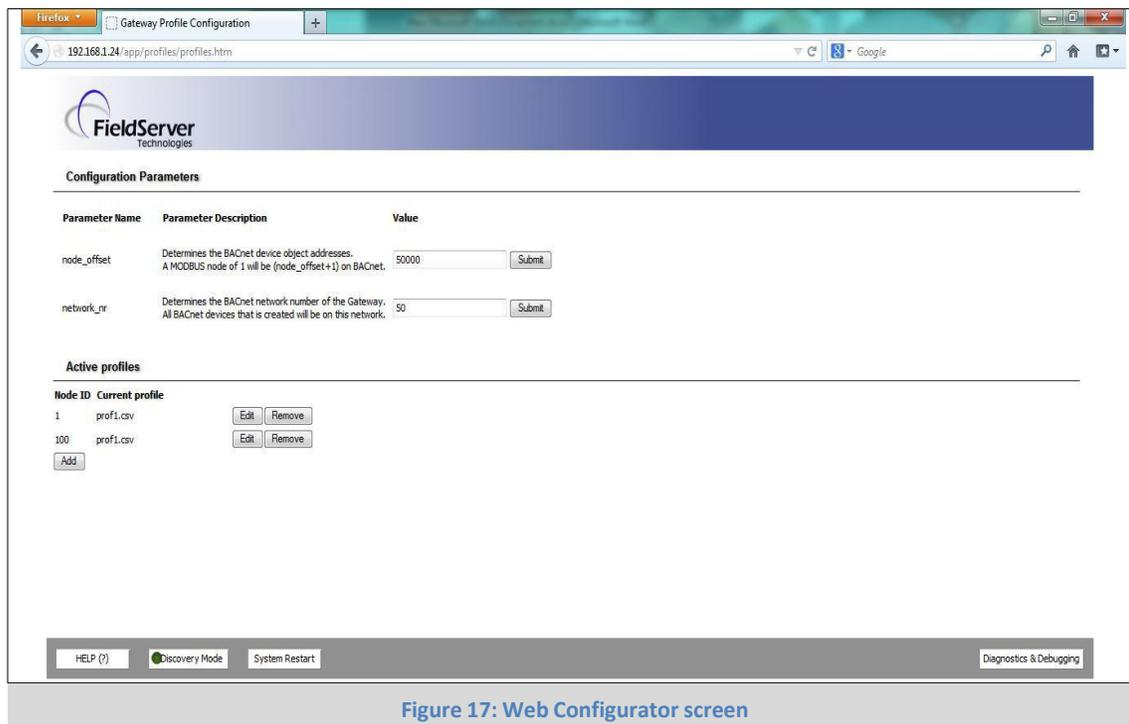

Figure 17: Web Configurator screen
- The Web Configurator will be displayed as your landing page. (Figure 17)